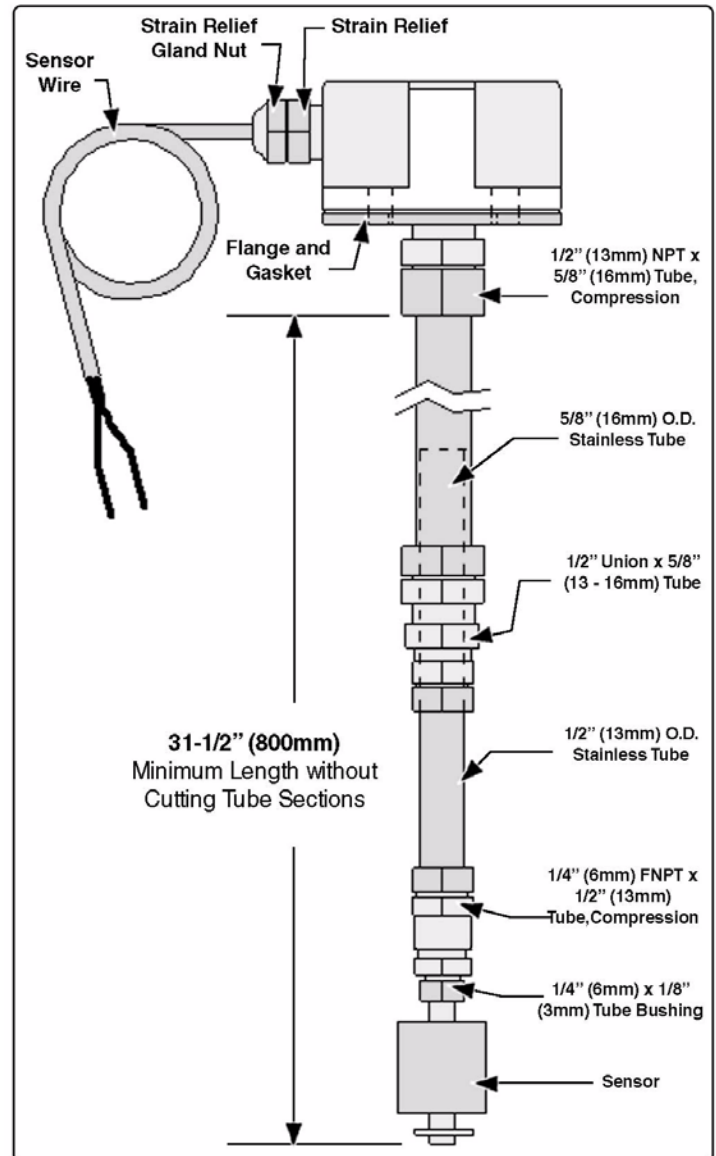

Figure 3-41: Top Mount Low Level Sensor Assembly
6. Adjust the telescoping section until the desired length is achieved as measured from the bottom of the flange to the bottom of the sensor. Tighten the compression fittings on the union to lock length setting. (See Figure 3-41: “Top Mount Low Level Sensor Assembly” on page 97.)
Certain applications may require the top mounted sensor to be shorter than factory length. (See Figure 3-41: “Top Mount Low Level Sensor Assembly” on page 97.)
(See Figure 3-41: "Top Mount Low Level Sensor Assembly.")
8. Install and tighten the 1/2" compression nut. (See Figure 3-41: "Top Mount Low Level Sensor Assembly" on page 97.)